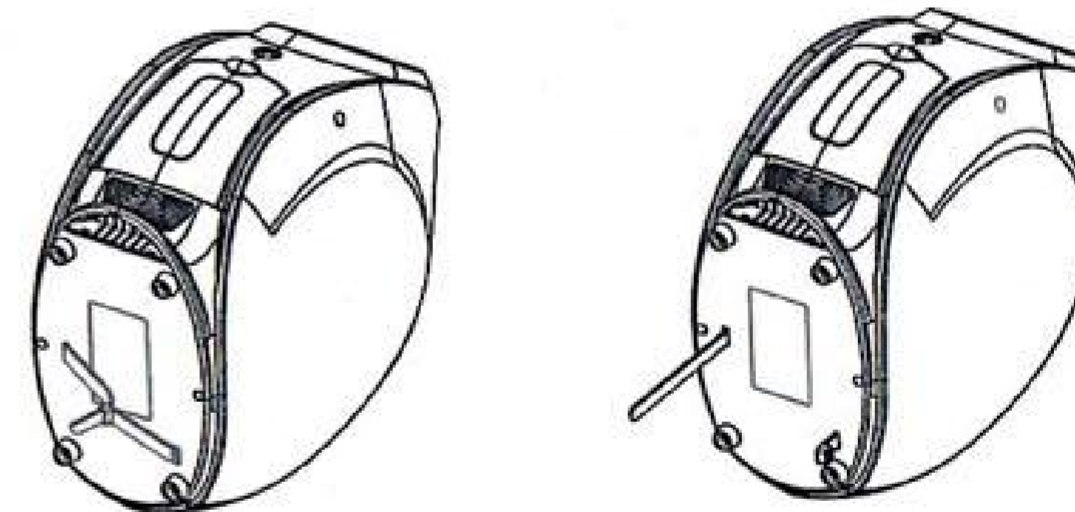

Fig. 7
► Take out the oxygen concentrator from the package, cut off the cable ties at the bottom of the oxygen concentrator, pull out the whole cable ties from the snap joint end before operation. (fig. 7)